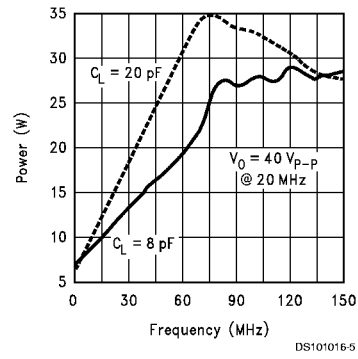
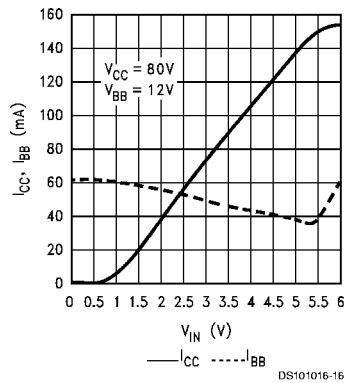

FIGURE 6. Power Dissipation vs Frequency
FIGURE 14.  $I_{CC}$  and  $I_{BB}$  vs  $V_{IN}$
*Figure 6* shows the total power dissipation of the LM2402 vs. Frequency when all three channels of the device are driving both an 8 pF load and a 20 pF load. This graph gives the designer the information needed to determine the heat sink requirement for his application. The designer should note that if the load capacitance is increased the AC component of the total power dissipation will also increase as shown in *Figure 6*. The designer should also remember that the actual video signal has a period of around 70% to 75%. The remainder of the time the video signal is inactive, or at the black level (below the black level if blanked). During this time the LM2402 will be at the black level, or below, dissipating under 4W. Referring to *Figure 14* and using an input black level voltage of 1.9V, the power dissipation during the inactive video time is 3.8W, including both the 80V and 12V supplies.
The LM2402 case temperature must be maintained below 100°C. Assume the worst case operating condition is a 100 MHz square wave during active video (a pixel clock of 200 MHz with one pixel on, one pixel off). From *Figure 6* one can see that the power dissipation of the LM2402 is 28W if the 100 MHz square wave is applied all the time. One must also compensate for the inactive period of video. From *Figure 14* it has been calculated that the power dissipation during the inactive video is 4W. Therefore there is an additional 24W of power dissipation due to the AC signal. Assume that the AC signal is active 72% of the time. Now the AC power dissipation is: